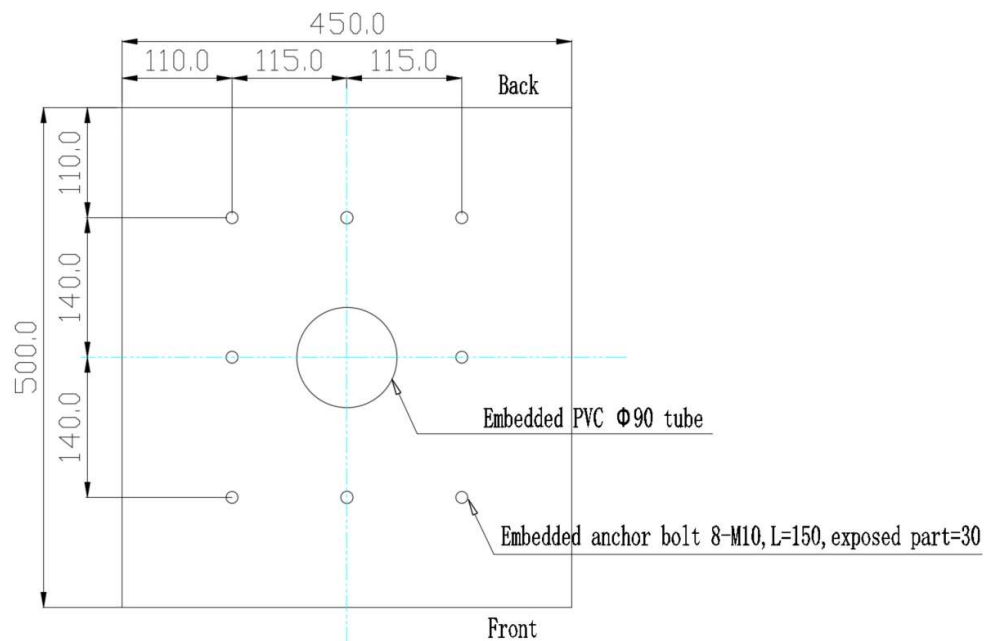
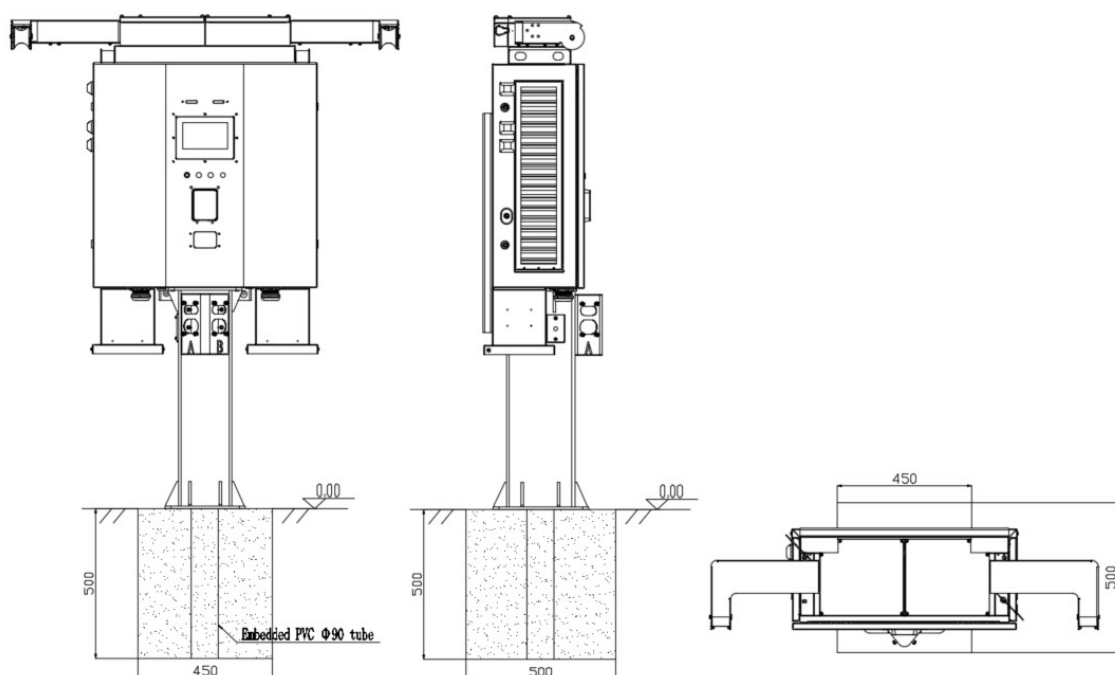

Figure 1 Top-view drawing of concrete foundation
Figure 2 The three-view drawing of construction
If there is no suitable place for installation on site, it is recommended to build a concrete foundation. The concrete foundation needs to be poured before the charger is installed. The size of the concrete foundation is 450mm\*500mm\*500mm, the buried depth of the foundation is 500mm. The dimension of concrete foundation can be adjusted according to customer's requirements and actual conditions on site. The top view is shown in Figure 1 and the three-view drawing of construction is shown in Figure 2. The concrete foundation inspection requirements are as follows:
- (1) Pay attention to the level correction when pouring the foundation.
- (2) The foundation installation is higher than the ground level, and necessary maintenance spaces are reserved on site depending on the specific situation.
- (3) The drainage outlet on the foundation surface is slightly inclined to avoid accumulation of water.
- (4) The foundation is filled with C25 concrete.
- (5) Reserve an outlet hole on the foundation for cable, as shown in the Figure1.
- (6) After the foundation is completed, use a level to test the levelness.
- (7) According to the drawing positioning, 8 screws of M10 are embedded in the concrete foundation in advance and expose 30-40mm on the upper surface of the concrete foundation.